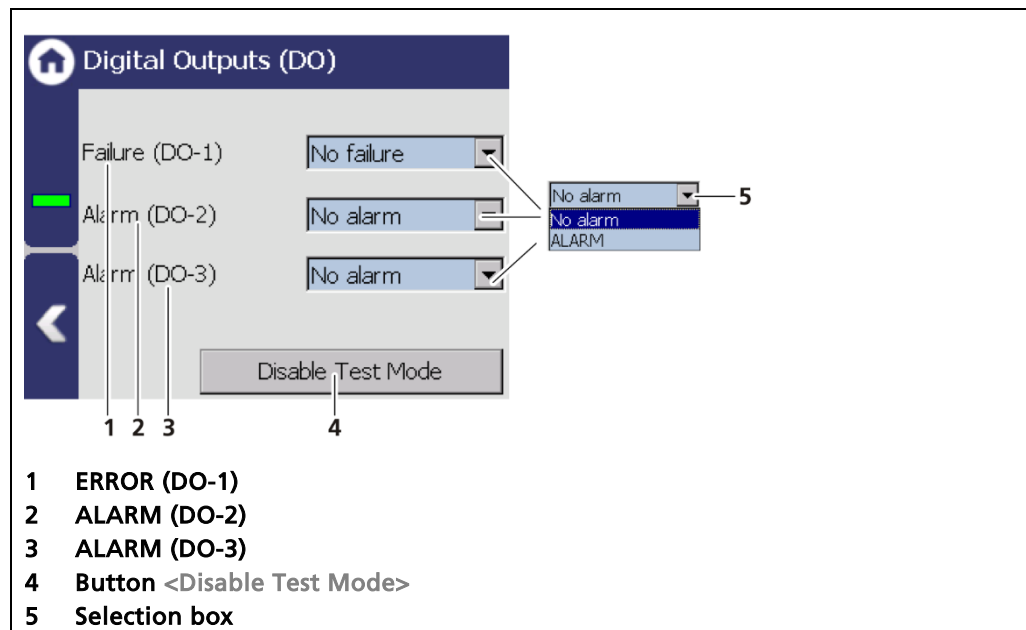

Fig. 128 Simulation Digital Output
1. Click on the selection field (Fig. 128, item 5) and select "No Alarm" or "ALARM" for the simulation.
2. Click on the <Disable Test Mode> button (Fig. 128, item 2) to stop the simulation.